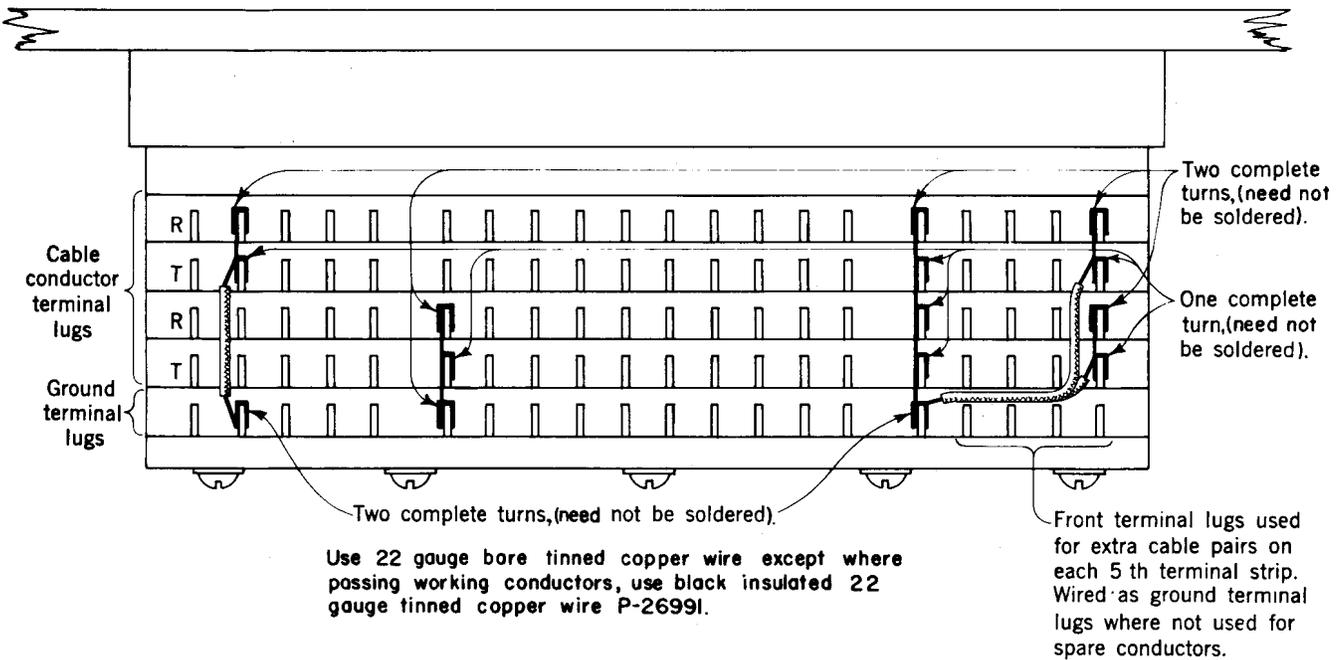

Fig. 3—Spare Conductor Ground Connection—91- or Modified 93-Type Terminal Strip
6.06 With 91- or modified 93-type terminal strips, connections between the ground terminals and spare conductor terminals shall be made as shown in Fig. 3.